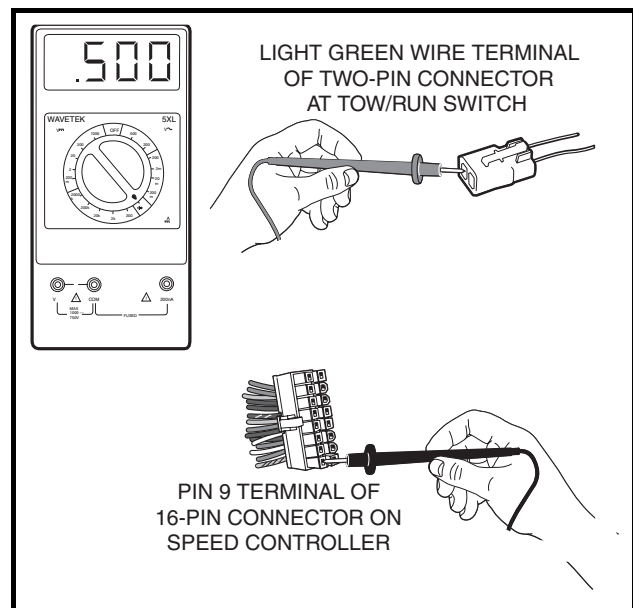

Figure 11-17 Diode Test – Probes Reversed
5. Reverse the multimeter probes and note the reading. With the black (–) probe of the multimeter on the pin 9 terminal of the multi-pin connector and the red (+) probe of the multimeter on the light green wire at the Tow/Run switch, the meter should read approximately 500 mV; however, a range of 400-600 mV is acceptable (**Figure 11-17, Page 11-29**).